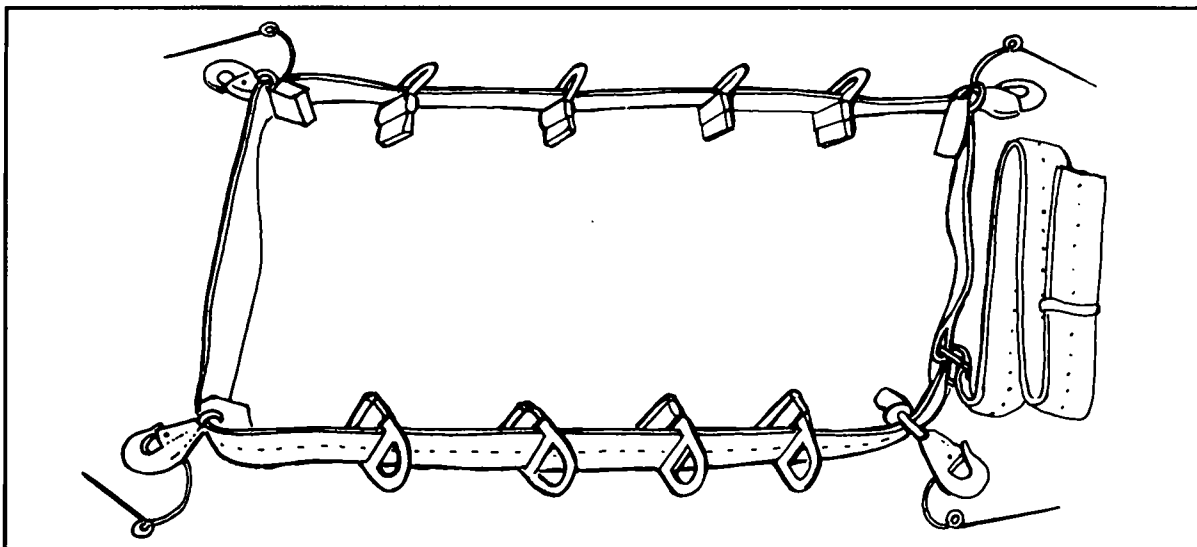

Figure 12-8. Modified anchor line.
b. Modified Anchor Line System. Install a floor-mounted anchor line system (Figure 12-8), using a modified STABO extrac-tion system anchoring strap assembly (NSN 1670-00-999-3544; TM 10-1670-262-12 and TM 10-1670-251-12). To modify the STABO,